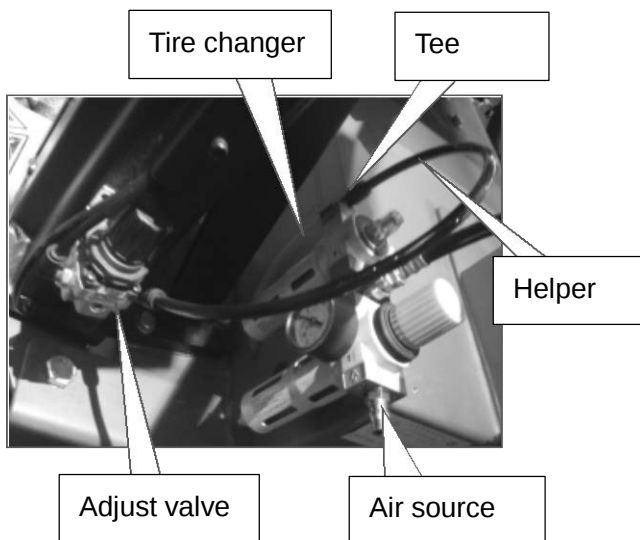

FIG8
4.2.7 Detach the outlet hose of air regulator then connect the Y-Tee and outlet using short $\Phi 8$ PU hose. The detached hose connect another end (FIG8).